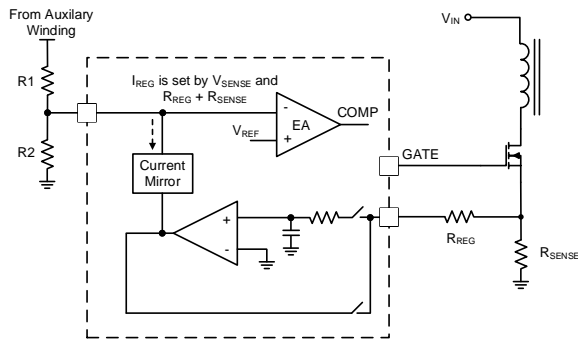

Figure 4: Output Voltage Compensation
In PSR mode, the auxiliary winding waveform reflects the secondary-side winding voltage, but the output voltage differs from the winding output voltage due to the output diode voltage drop and the power winding resistance (see Figure 4). The dropout voltage varies as the conduction current changes. As the current varies, the resistance from the SENSE pin to GND sets the compensation gain of the dropout voltage. The current-sense (CS) signal is filtered internally, and controls the current sinking from the FB pin based on the average voltage from the SENSE pin. There are three types of current gain from the average V_{SENSE} to the FB sinking current (see Table 2 for SENSE programming options). The FB sinking current creates a voltage drop on the FB pin's high-side (HS) feedback resistor to compensate for V_{OUT} .
The MP6005 has a SYNC driver pin that controls the second switch. If SYNC is high, the second switch turns off. If SYNC is low, the second switch turns on. Figure 4 shows the phase and dead time relationships between the GATE and SYNC pins.